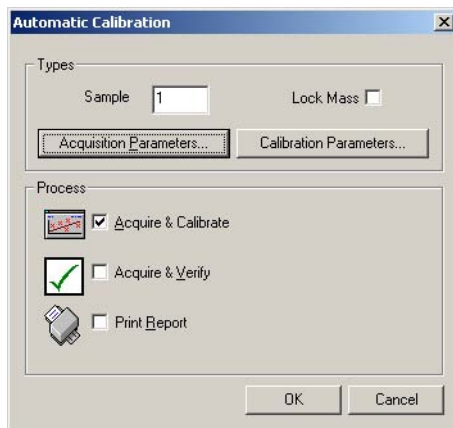

Figure 3-9 Automatic Calibration Dialog Box
10. Click  to open the Automatic Calibration dialog box (Figure 3-9).